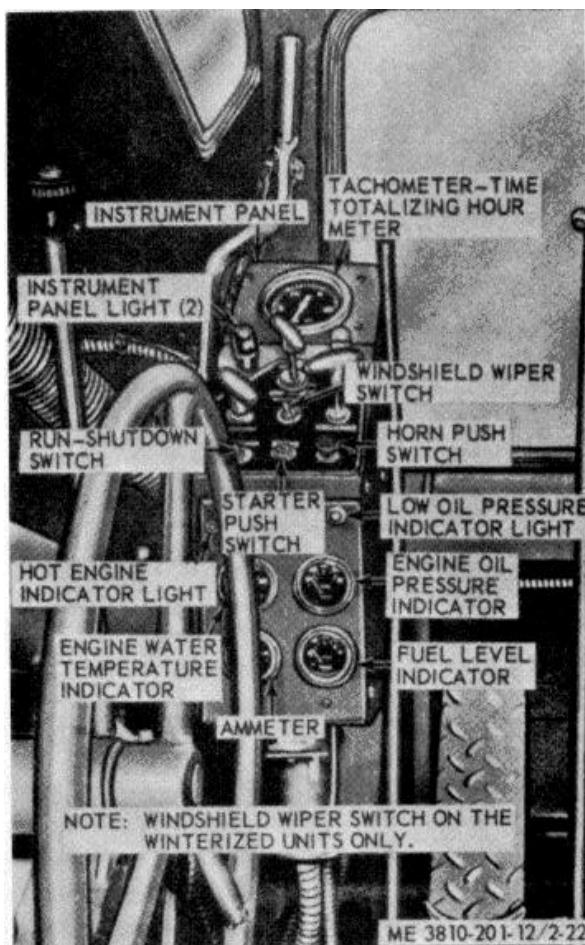

Figure 2-22. Instrument control stand.
(1) The tachometer-hour meter is located at top of instrument panel (fig. 2-22) and indicates speed (in revolutions per minute) at which engine is operating.
(2) The hour meter portion of tachometer is calibrated to register engine hours at 1,411 rpm. Operation at other speeds subject to interpolation.
c. *Instrument Panel Lights.* Two panel lights (fig. 2-22) illuminate instrument panel on control stand. Two others illuminate lighting control box area.
g. *Windshield Wiper Switch (Winterized Models Only).* This is a two position toggle switch (fig. 2-22). Move toggle up to turn wiper motor ON. When pulled down, wiper motor is OFF.
h. *Horn Push Switch.* When depressed, horn push switch (fig. 2-22) completes electrical circuit and horn sounds warning. When pressure is released, horn shuts off.
i. *Run-Shutdown Switch.* Moving this switch (fig. 2-22) to RUN energizes starter circuit; fuel shutoff solenoid in fuel pump cover; the low oil pressure/water high temperature warning light switch circuits, and governor overspeed micro-switch circuit. Before engine starts, low oil pressure warning light will be red. If this red light does not go out within 15 seconds after engine starts, move switch to SHUTDOWN and investigate. If either light becomes red during normal engine operation, stop engine (para 2-11), move switch to SHUTDOWN and investigate. If governor overspeed microswitch (normally closed) opens because engine speed reaches 1,935 rpm + 15 rpm, open circuit will deenergize solenoid in fuel pump cover and shut off fuel supply, stopping engine. Always move this switch to SHUTDOWN after engine has been stopped (para 2-11).
j. *Starter Push Switch.* After moving RUN-SHUTDOWN switch to RUN, depressing this switch (fig. 2-22) will cause starter solenoid to engage starter, and start engine.
This light (fig. 2-22) when ON, (red) warns operator that engine oil pressure is below safe operating level, and that he should stop engine (para 2-11) for an investigation of cause(s).
This light (fig. 2-22) when ON, (red) warns operator that cooling system is defective, and that he should stop engine (para 2-11) for an investigation of cause(s).
m. Engine Oil Pressure Indicator. This indicator (fig. 2-22), when engine is operating, indicates pressure in lubrication system. The pressure indication at idle speed should be 15 psi or above. Normal operating pressure at governed speed is 35 psi.
indicator (fig. 2-22), when engine is operating, indicates temperature of coolant. Normal operating temperature should range between 160° F and 180°F. If operating temperature is not reached in a reasonably short time, stop engine (para 2-11) and determine cause(s).
o. *Ammeter.* The ammeter (fig. 2-22), while engine is operating, gives reading of battery condition.
(1) *Model 855BG2 Winterized Models.* Located on operators instrument panel (fig. 2-22), it indicates quantity of fuel in tank.
e. *Heat-Start Switch(On Models _With D333TA Engine).* This switch (fig. 2-25) is an aid to cold weather starting (para 2-25) for the model D333TA engine only, and will replace starter push switch (fig. 2-22) on operator's instrument panel as D333TA engines are installed. Refer to paragraph 2-25 for operating instructions.
(3) Position engine throttle control lever at half throttle, and move run-shutdown switch (fig. 2-22) from shutdown to ON.
(a) Depress start push switch (fig. 2-22) for 15 seconds or until engine starts, then release switch.
(c) After engine starts, insure that there is sufficient oil pressure to turn off low oil pressure warning light (fig. 2-22). If light does not go out within 15 seconds, stop engine (para 2-11) and determine cause(s). Report deficiencies to organizational maintenance personnel.